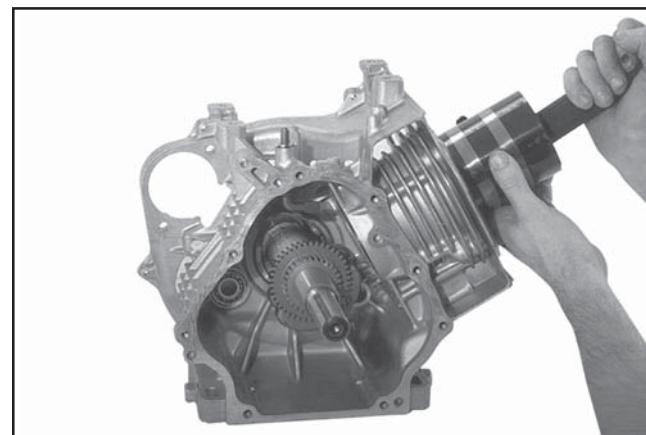

Figure 11-13. Installing Piston Using a Ring Compressor.
5. Make sure "V" stamping on piston is facing down toward the base of the engine. Use a hammer handle with a rubber grip and gently tap the piston into the cylinder as shown in Figure 11-13. Be careful that the oil ring rails do not spring free between the bottom of the ring compressor and the top of the cylinder.